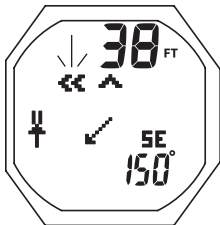

Fig. 155 - REF OP MAIN
**Reference OP Main**, information includes (Fig. 155) -